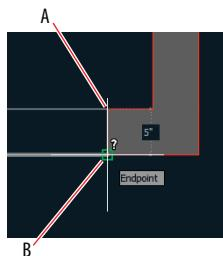

FIGURE 6.16 Measuring the wall thickness with Measure
6. Zoom into the entry, and click the Measure tool in the Utilities panel. Click points A and B shown in Figure 6.16 to measure the wall thickness. The tooltip reads 5" (12.7 in metric). Press Esc.